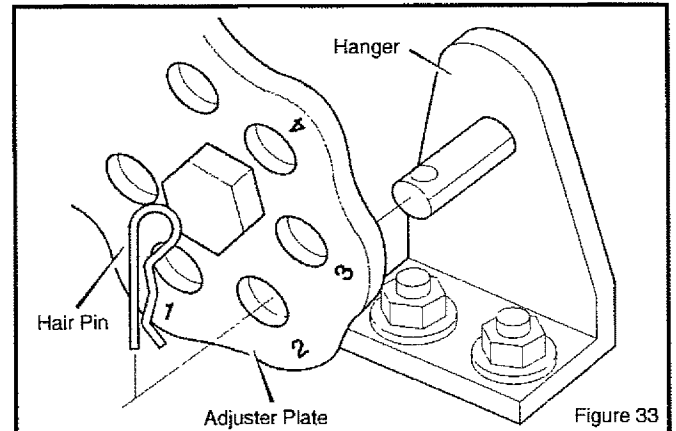

Figure 33
1. Disconnect one or both **adjuster plates** from the **hangers** (Figure 33)